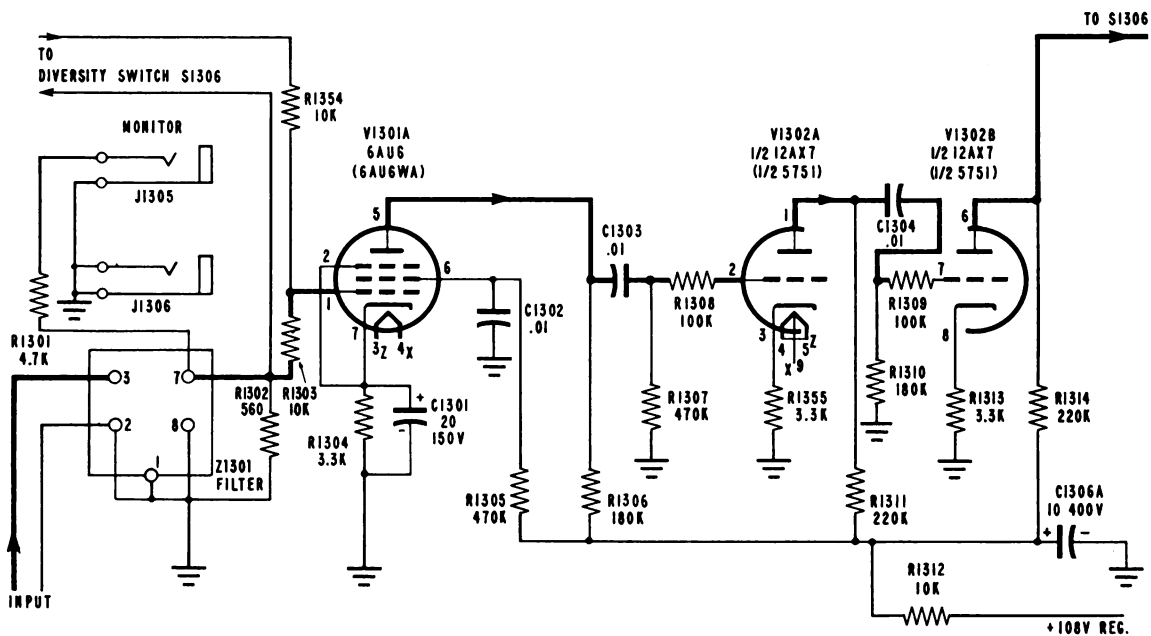

Figure 2-10. Schematic Diagram of Limiting Amplifier
c. LIMITING AMPLIFIER. - The limiting amplifier is composed of three resistance-capacitance coupled stages utilizing both grid and plate limiting action. In the operating frequency range between 350 and 3500 cps, the RMS voltage of this amplifier varies about 10% for a change of input signal voltage from -40 dbm to +6 dbm. To permit the amplifier to operate at the greatest possible speed and correct for differences between MARK and SPACE signal levels, the time constants of the RC coupling networks are of the same order of magnitude as the period of the carrier signal in the lowest frequency channel. Figure 2-10 is a schematic diagram of the limiting amplifier with the DIVERSITY switch S1306 in the OFF position, thereby permitting single channel operation. The input signal carrier frequency is filtered from the line by filter Z1301 and applied to the grid of the 6AU6 type tube V1301 through the 10,000 ohm resistor R1303. The 10,000 ohm resistor R1354 is used to add the carrier signals at the grid of V1301 when two receivers are connected in diversity. Self-bias for tube V1301 is provided by the 3300 ohm resistor R1304 and the 20 mf capacitor C1301. A 470,000 ohm screen voltage dropping resistor R1305, a 0.01 mf screen by-pass capacitor C1302, and a 180,000 ohm plate load resistor R1306 complete the first stage and permit it to operate as a linear amplifier over the input signal range of -40 dbm to +6 dbm. A 1 ohm resistor R1349 lowers the filament voltages on tubes V1301 and V1302 to 5.5 volts and thereby allows the use of tubes with relatively large heater cathode leakage.